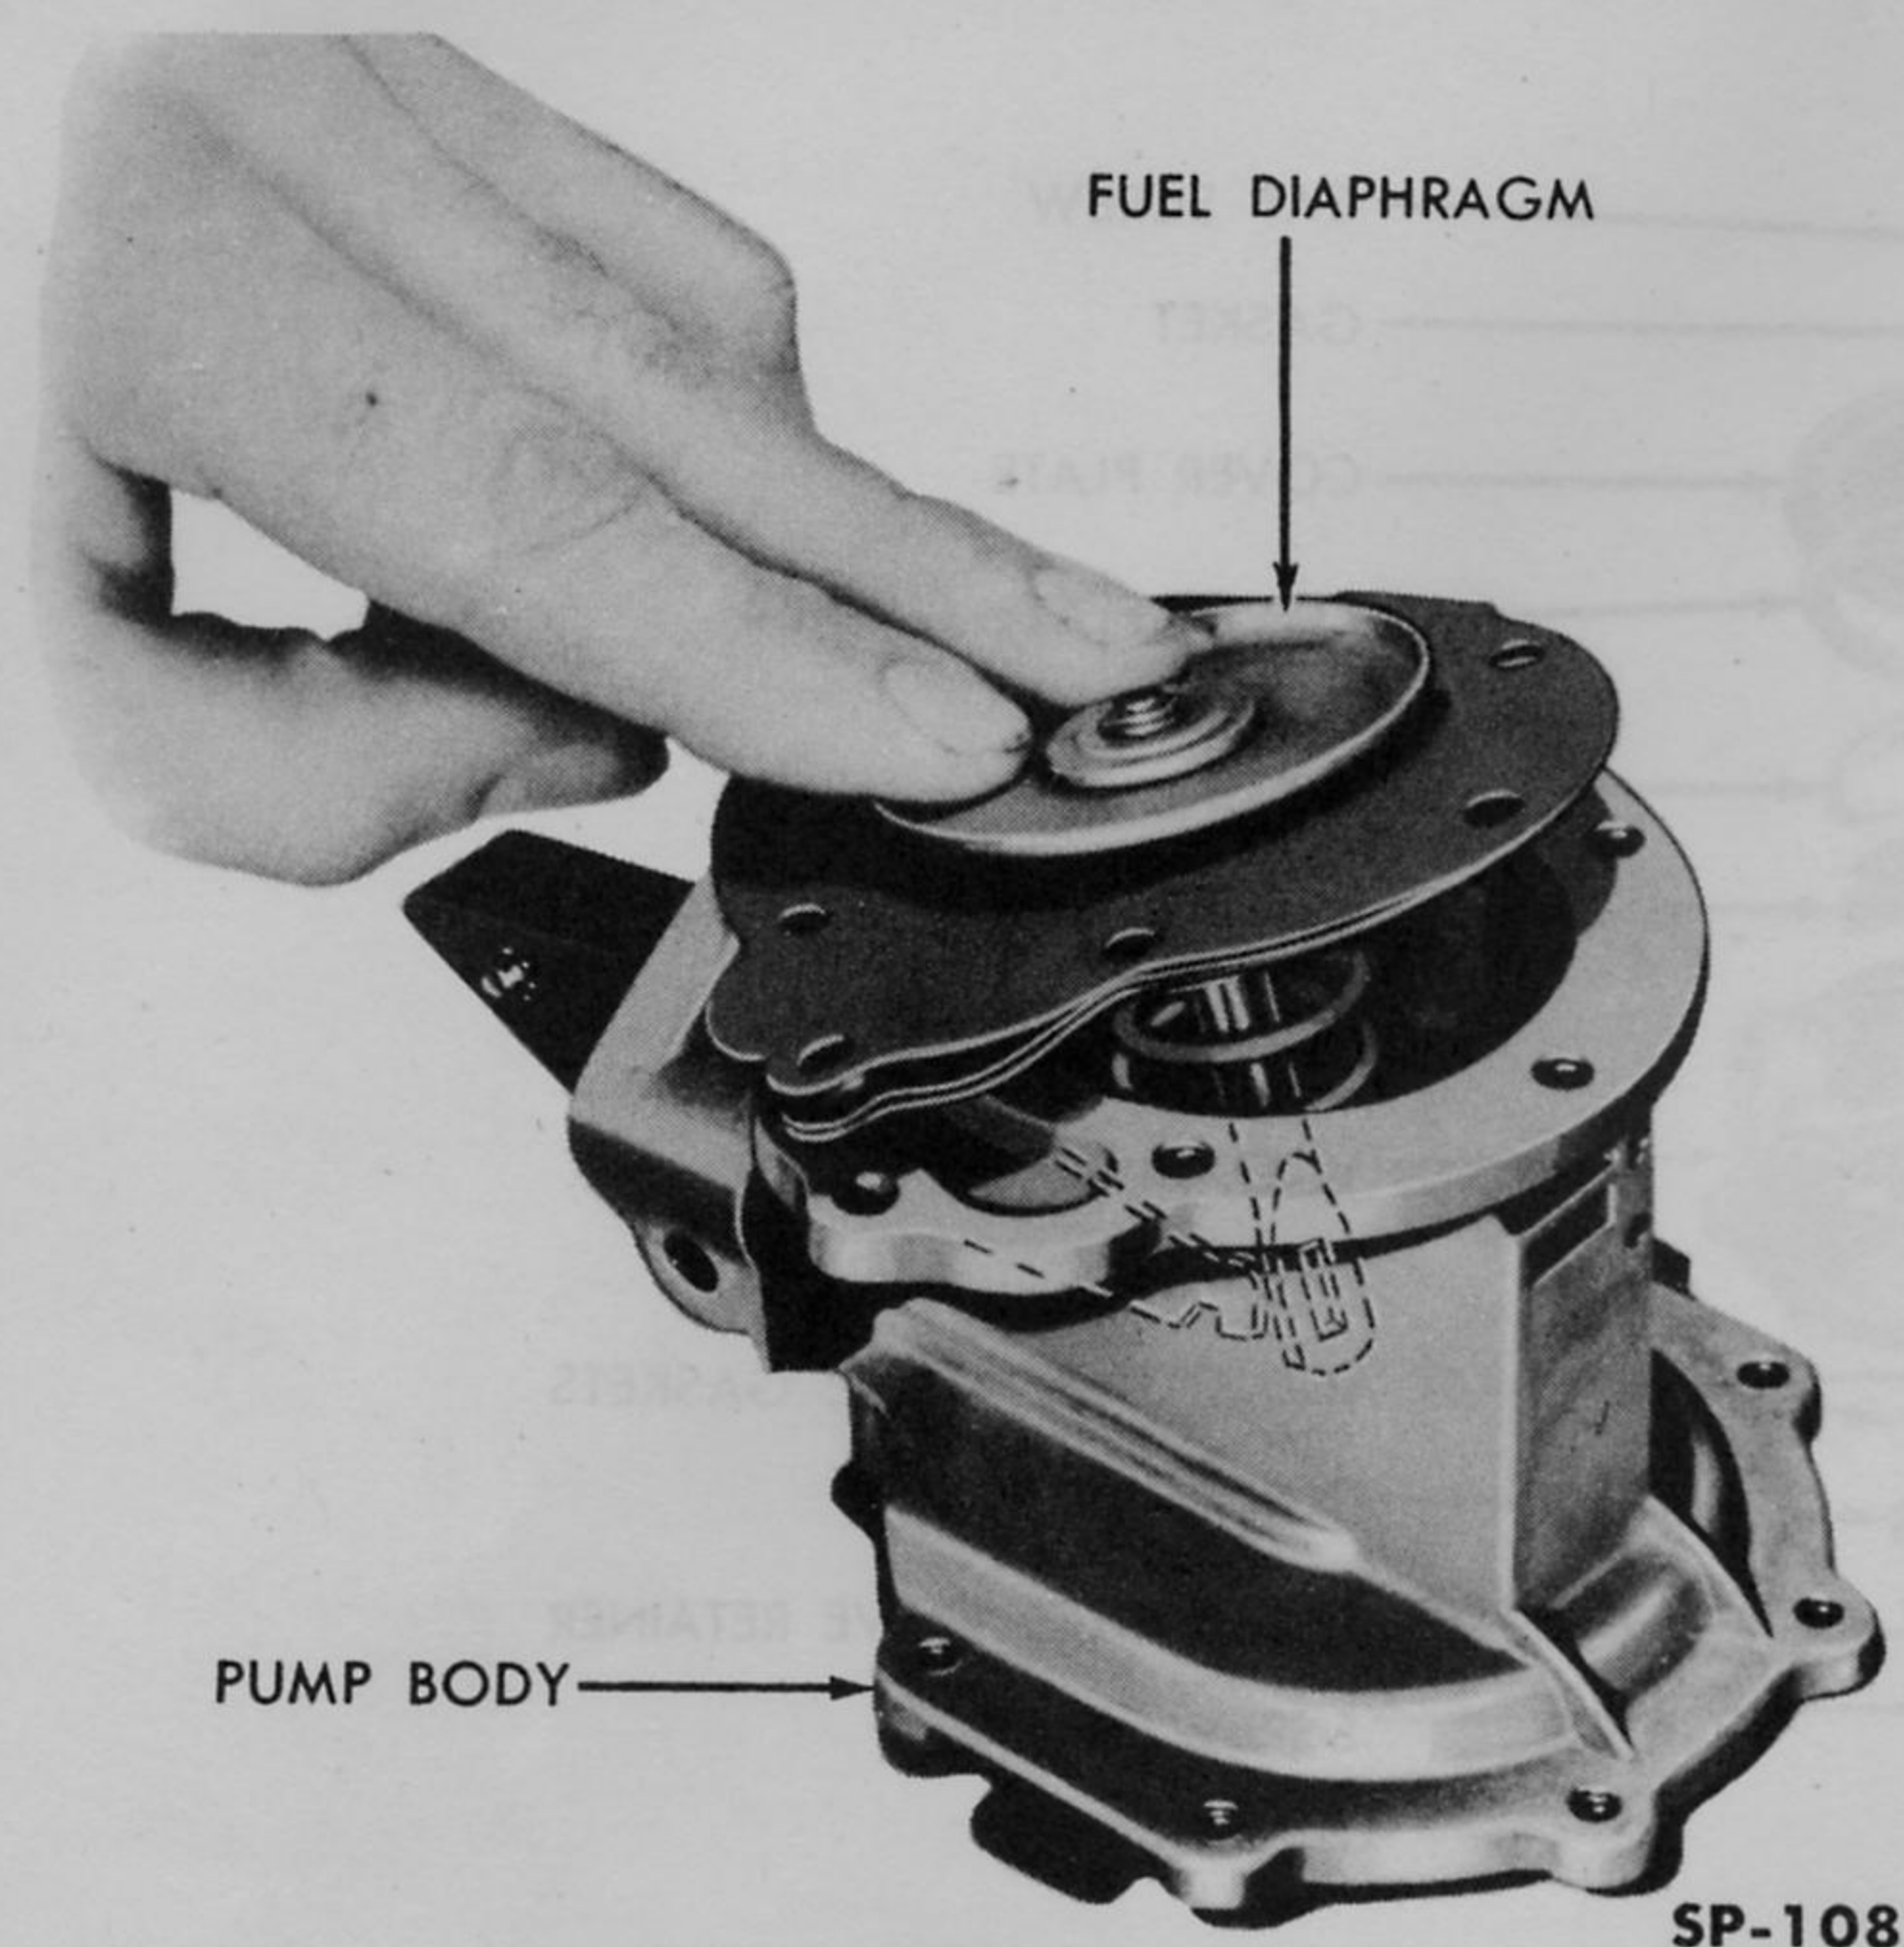

Fig. 115—Removing Fuel Diaphragm
5. Disassemble Fuel Pump Body. Depress the fuel diaphragm as shown in Fig. 115 to push the lower end forward and disconnect it from the fuel link. Lift the fuel diaphragm, spring retainer and spring from the body. Remove the vacuum dia-